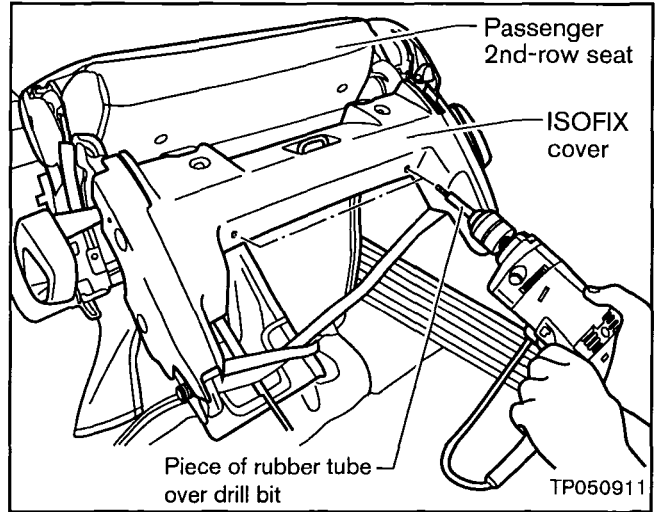

Figure 9
- d. Carefully drill two 4.7mm (3/16") holes in the ISOFIX cover (see Figure 9).
- To prevent this, install a piece of rubber tubing (or equiv. drill stop) over the drill bit so that only 10mm (13/32") of the bit is exposed. See Figure 9.